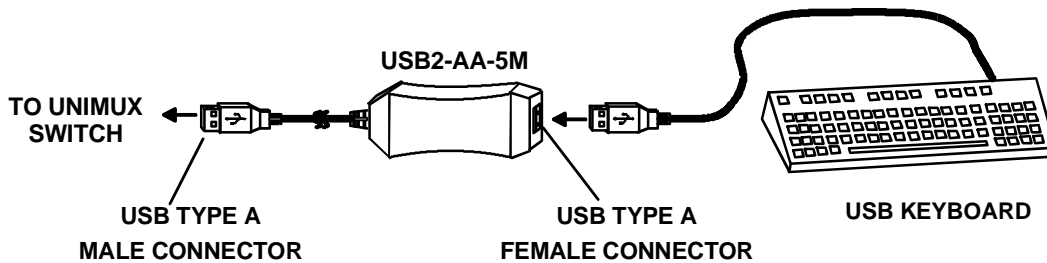

Figure 6- Use USB2-AA-5M to extend a device, or a computer
Note: If device cables are not long enough to reach the UNIMUX switch, they can be extended up to 20 meters using up to 4 NTI USB2-AA-5M USB 2.0 Active Extensions (see Figure 6)- purchased separately. Contact your NTI salesperson for more details by calling (800) 742-8324 (800-RGB-TECH) or (330) 562-7070 or visit our website at <http://www.networktechinc.com>.